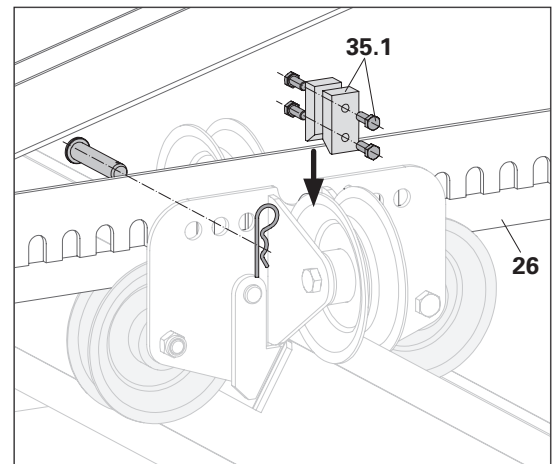

Fig. A9.05a – Bolts and cotter pins only on fixed bearing
2. Secure blocks with 2 bolts M12 x 30 (35.1) respectively – 2x. (Fig. A9.05a)
3. Insert bolts through the designated recess of the carriage (35) and hole of the support (26), and secure with cotter pins. (Fig. A9.05a)